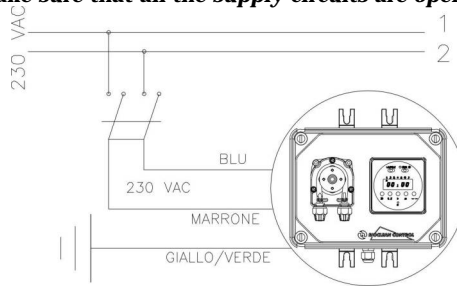

Fig. 2
1. Disconnect the pins from the mains or by means of a two poles switch with 3 mm minimum distance between the contacts. (Fig. 2).
- b. - Carefully observe the regulations in force in the various countries as regards electrical installations (Fig.2). **When the supply cable is devoid of a plug, the equipment should be connected to the supply mains by means of a single-pole circuit breaker having a minimum distance of 3 mm between the contacts. Before accessing any of the electrical parts, make sure that all the supply circuits are open.**